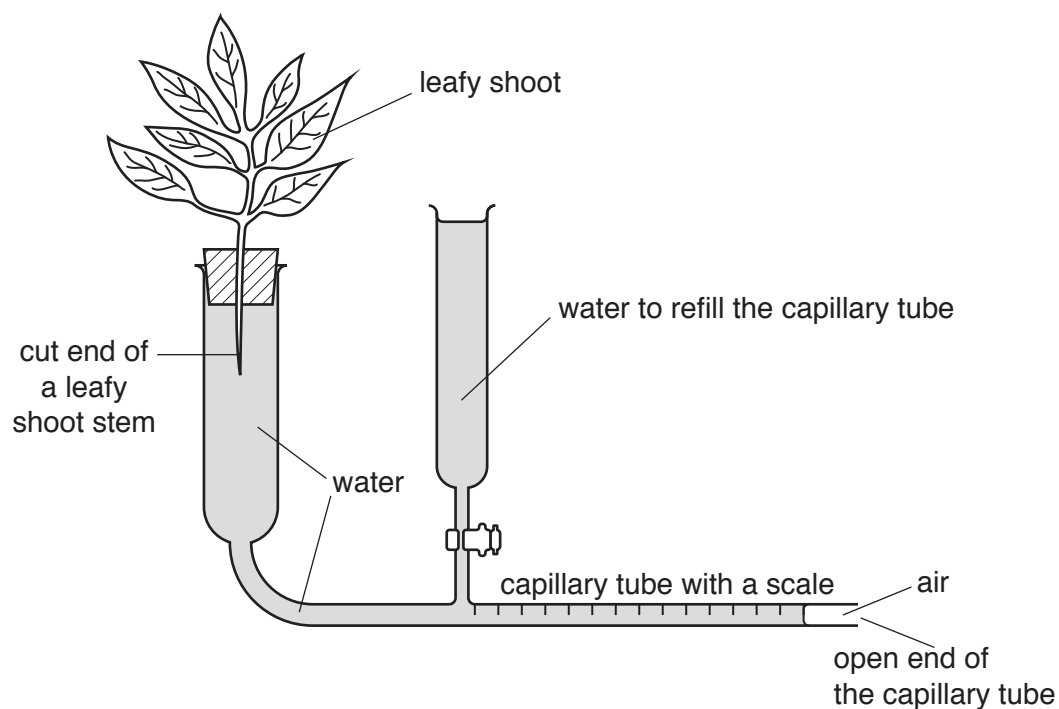

Fig. 2.3
- (d) Fig. 2.3 shows the apparatus used to measure water uptake by a leafy shoot. The leafy shoot is sealed tightly into a glass tube which is connected to a capillary tube containing water.